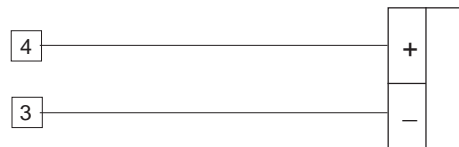

Fig. 5.2
- Connect the instrument to the calibrator as shown in Fig. 5.2.
- Set 20,000 mA on the calibrator (see Fig. 5.2).